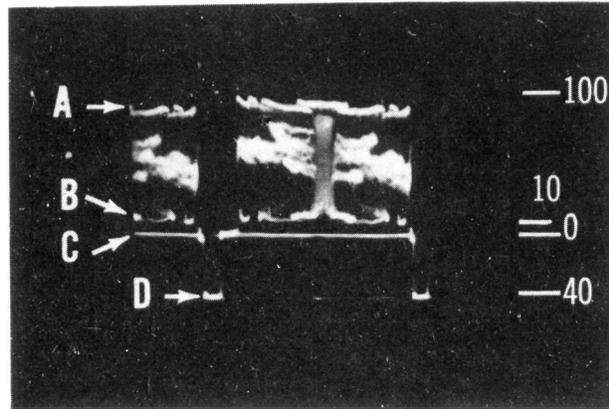

Fig. 15 — Use and Interpretation of IRE Scale
(a) **Sync Mode Adjust:** Fig. 15 illustrates the correct sync mode, which shows the H sync pulse occurring at the right-hand end of the sweep. The SYNC and FINE FREQUENCY controls are alternately adjusted until this condition is attained. If the controls are improperly adjusted, synchronization may occur on blanking, which is indicated by the disappearance of the right-hand sync pulse. The sync mode adjustment is applicable to both high- and low-frequency sweep synchronization, i.e., V sync pulses should occur at the right-hand end of the sweep.
substantially at their steady state value. The longer duration signals of both synchronizing and blanking levels which occur during the horizontal synchronizing interval, are suitable. A representation of the appearance of these portions is shown in Fig. 15, the measurements being made as indicated to minimize errors due to transmission distortion.
(4) Refer to Fig. 15 for presentation as it would appear on oscilloscope screen.
(5) In measuring oscilloscope deflection levels by means of an external scale, due care must be taken to avoid errors from parallax, centering, shift, etc.